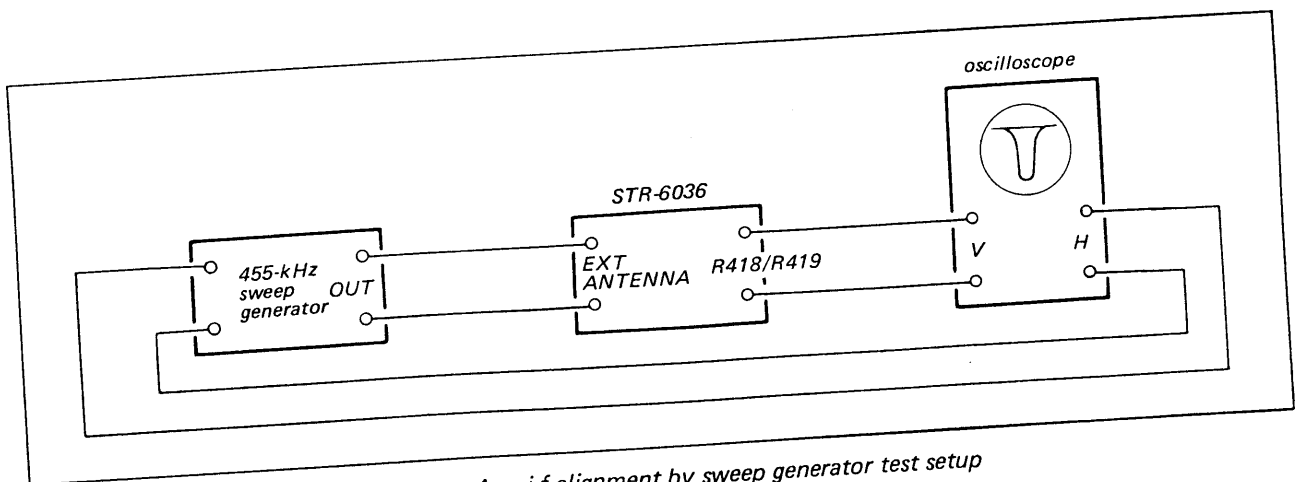

Fig. 3-12. A-m i-f alignment by sweep generator test setup
4. With the equipment connected as shown in Fig. 3-12, adjust the oscilloscope controls and generator output to provide a visible indication.